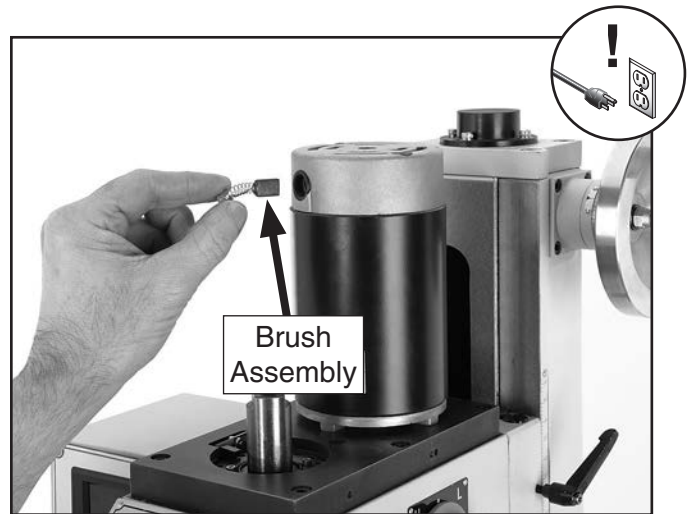

Figure 60. Installing new brush assembly.
4. Remove the old brush assembly. If the brush is worn down to less than 1/4" (6mm) then replace it with a new one. Otherwise re-install the brush (**Figure 60**).